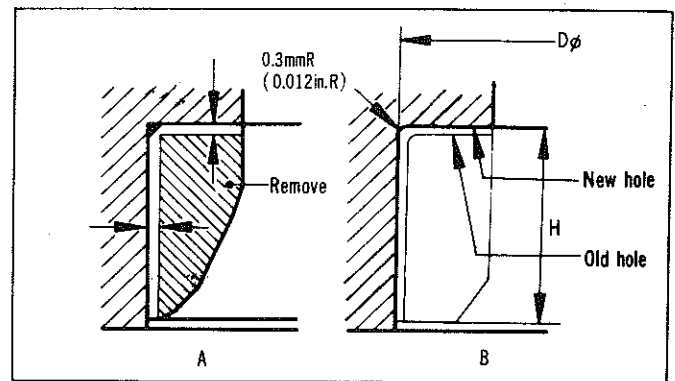

Fig. 18—Replacing valve seat insert
(1) Thin down the valve seat insert by cutting, with a suitable cutter, to within 0,5 to 1,0 mm (0.020" to 0.040") of the cylinder head. Refer to Fig. 18 (A).
(2) Remove the valve seat insert and cut the seat insert bore diameter and height to the dimension shown in the specifications, Refer Fig. 18 (B).
(3) Heat the cylinder head to correct temperature (see note previous page) and press in the new valve seat insert.
(4) Cut the insert to form a new seat as described in Re-cutting Valve Seat.